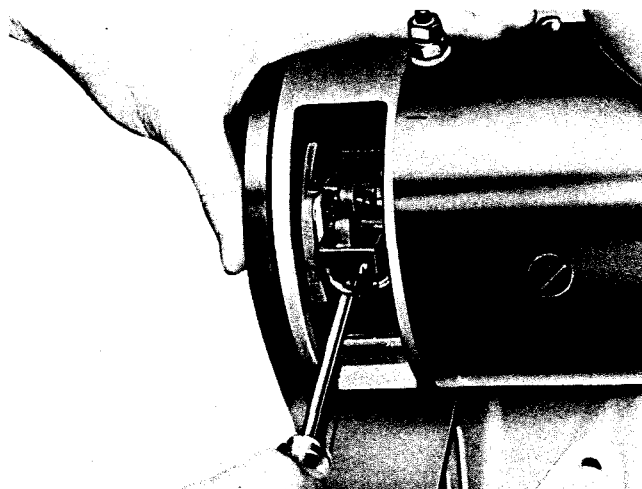

Fig. 2-41, (N11308). Checking generator brushes
1. Inspect terminals for corrosion and loose connections, Fig. 2-41, and wiring for frayed insulation. Check mounting bolts for tightness and check belt for alignment, proper tension and wear.